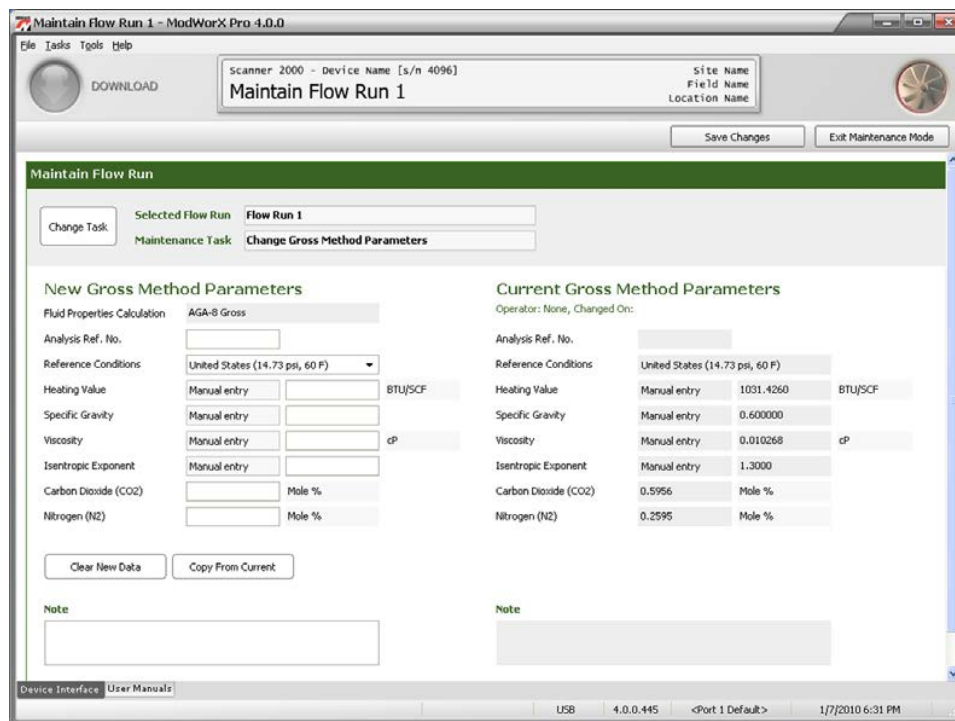

Figure 10.11
- b. Click **OK** to save the settings and return to the Maintain Flow Run screen (Figure 10.11, page 143).